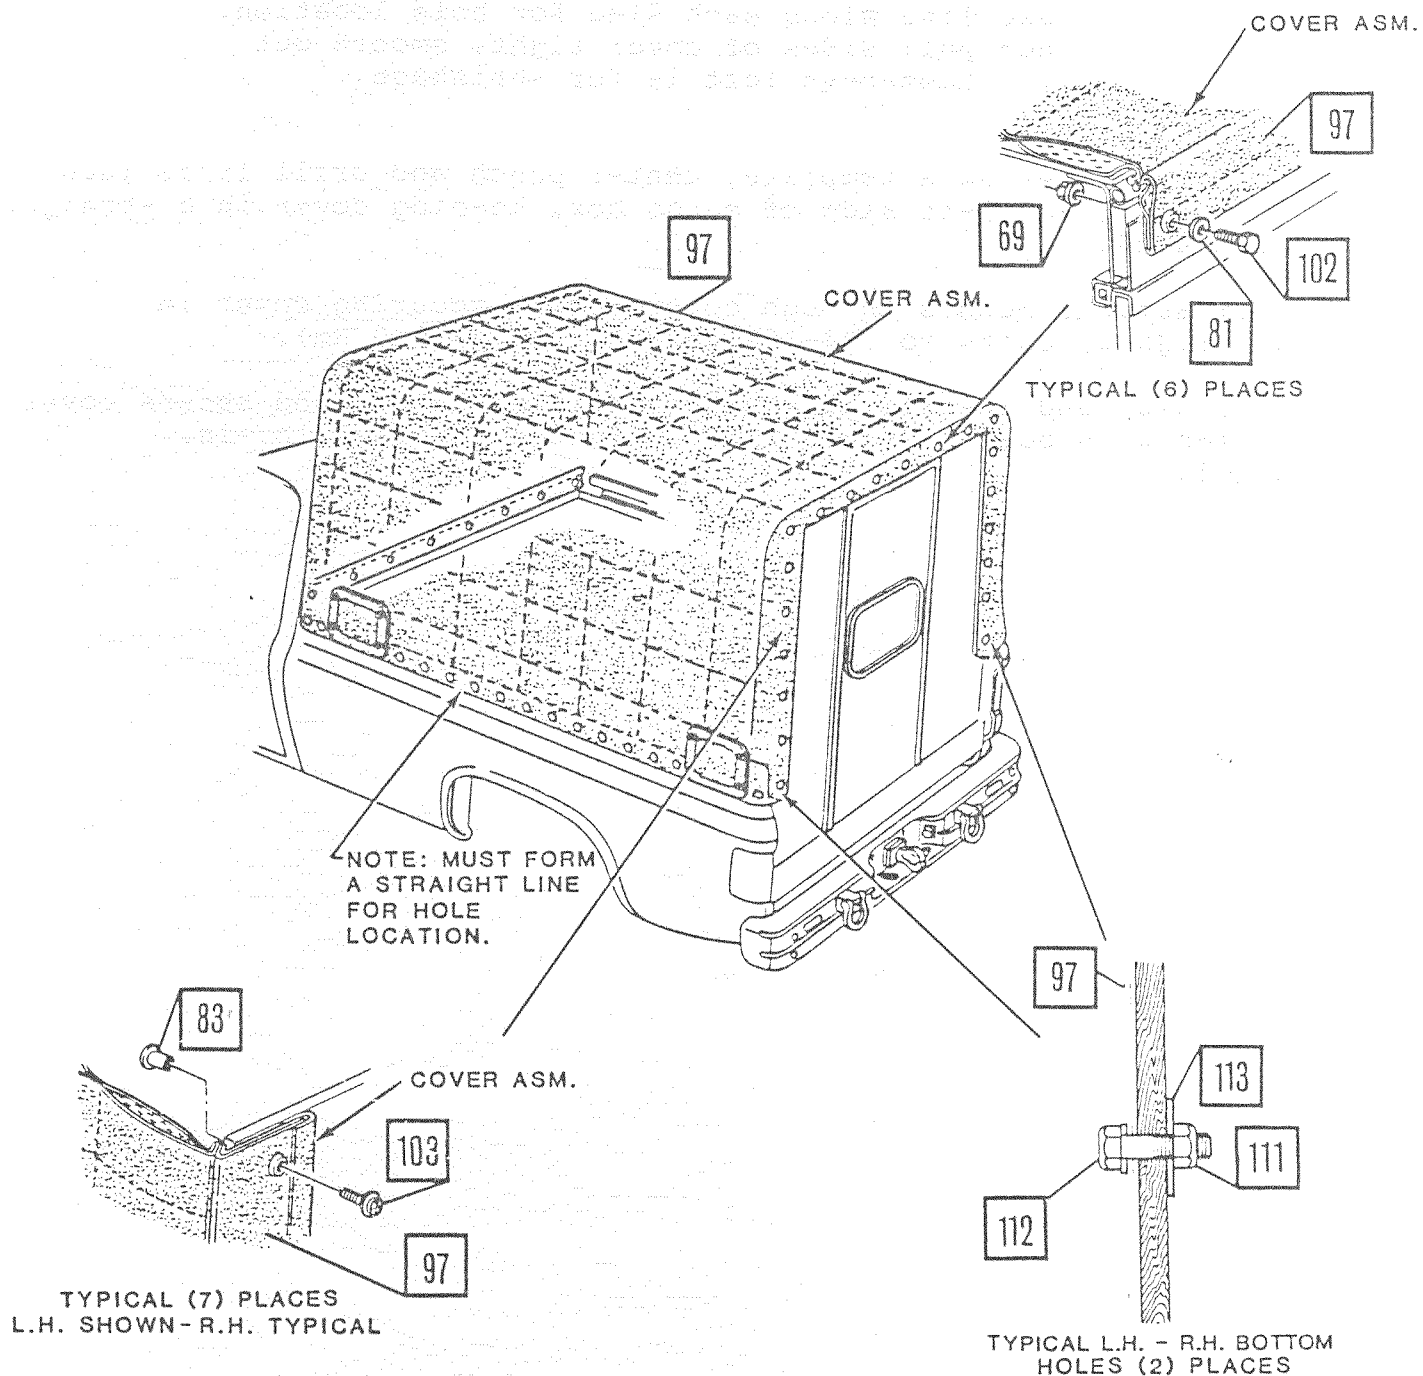

Figure 28.
90. Secure cover above door with 6 nuts, bolts and washers. Tighten to 50-65 lb.-in. (6.0-8.0 Nm). Install 2 screws and "T" nuts in outer panels. Tighten to 25-31 lb.-in. (2.8-3.5 Nm) (Figure 28.).
91. Using cover as a template, center punch and drill  $13/32$  inch holes down sides of rear plywood, starting at top and working down (Figure 28.).
92. Install "T" nuts into drilled holes and secure into place with bolts (Figure 28.). Tighten to 25-31 lb.-in. (2.8-3.5 Nm).
94. Using cargo cover as a template, center punch and drill 15/32 inch holes along right and left side of cargo box, keeping cover in a straight line. (Figure 28.).